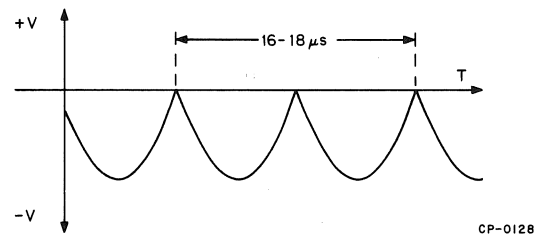

Figure 5-8 Compressor Waveform for REW
9. Initiate rewind tape motion and measure the compressor waveform for a double-period of 16–18 μ s (Figure 5-8).